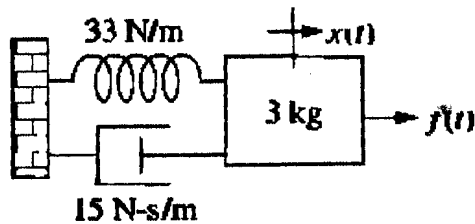

Figure 1
1. For the system shown in Figure 1, obtain the transfer function $X(s)/F(s)$. Also find the damping factor and natural frequency of the system. Calculate the percentage overshoot, peak time and settling time of the system's unit step response.